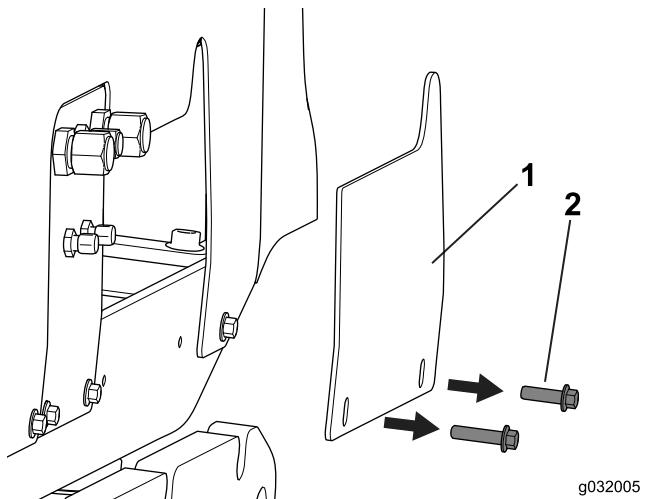

Figure 3
1. Solenoid valve and attached fittings	3. Bolt (3)
2. Flat washer (3)	4. Valve-mount plate
6. Remove the existing cover plate from the rear of the machine as shown in Figure 3.